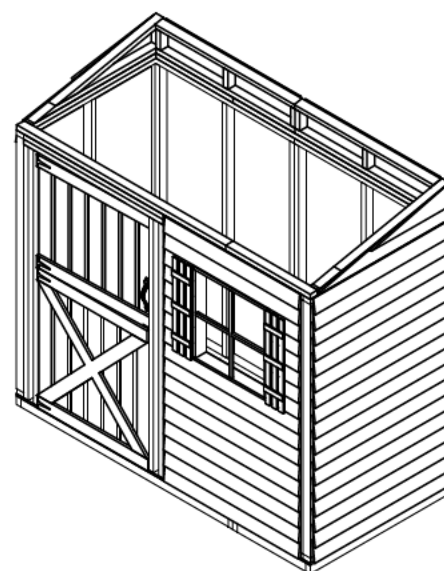

FIGURE S12
- When all the Walls and Top Plates are in place, you will now attach the two Roof Gables and the two Infill Walls with 3" screws (FIGURE S12 and FIGURE S13). Use 2 - 3" screws to attach gable and infill walls together at each joint and use 3 - 3" screws to attach each gable and infill wall to top of the walls,